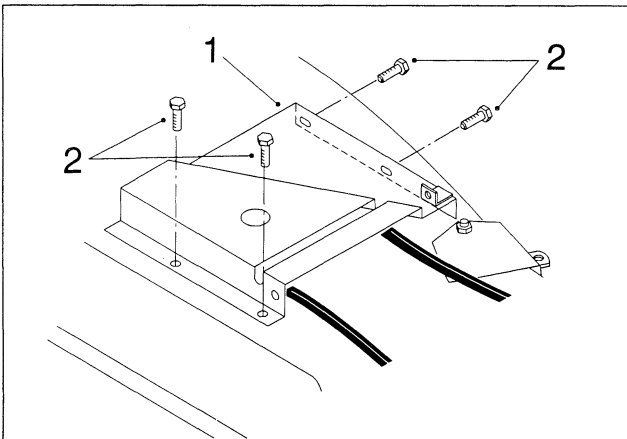

Figure 8
2. Mount the **mower belt cover** (Fig. 8) loosely on the outside of the mower belt-cover bracket using four 1/4" x 1/2" thread-forming hex-head flange screws. **Do not tighten the screws** because an adjustment is made in the next step.